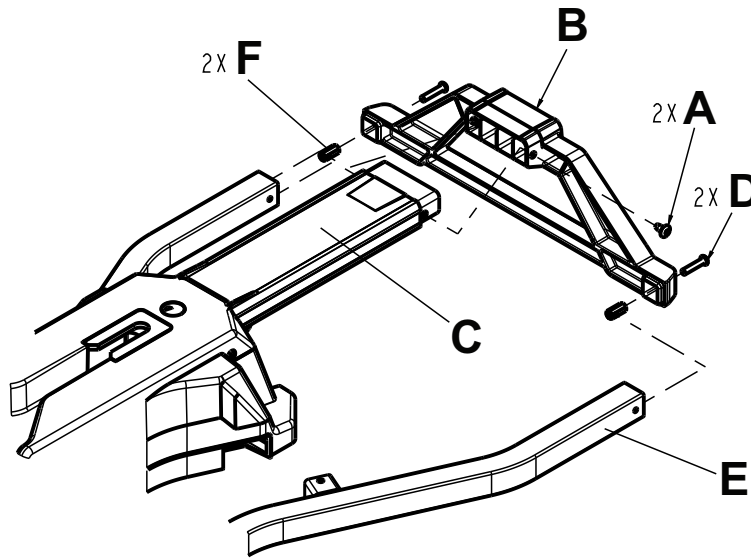

Figure 7 – Replacing the safety bar rail support
1. Using a T27 Torx driver, remove the two screws (A) that secure the safety bar rail support (B) to the safety bar rail (C) (Figure 7). Save the screws.
2. Using a T27 Torx driver, remove the two screws (D) that secure the safety bar rail support (B) to the guide rails (E) (Figure 7). Save the screws. Discard the safety bar rail support.
Note - Make sure that the two hex couplers (F) are centered in the guide rails (E) before you reinstall (Figure 7).